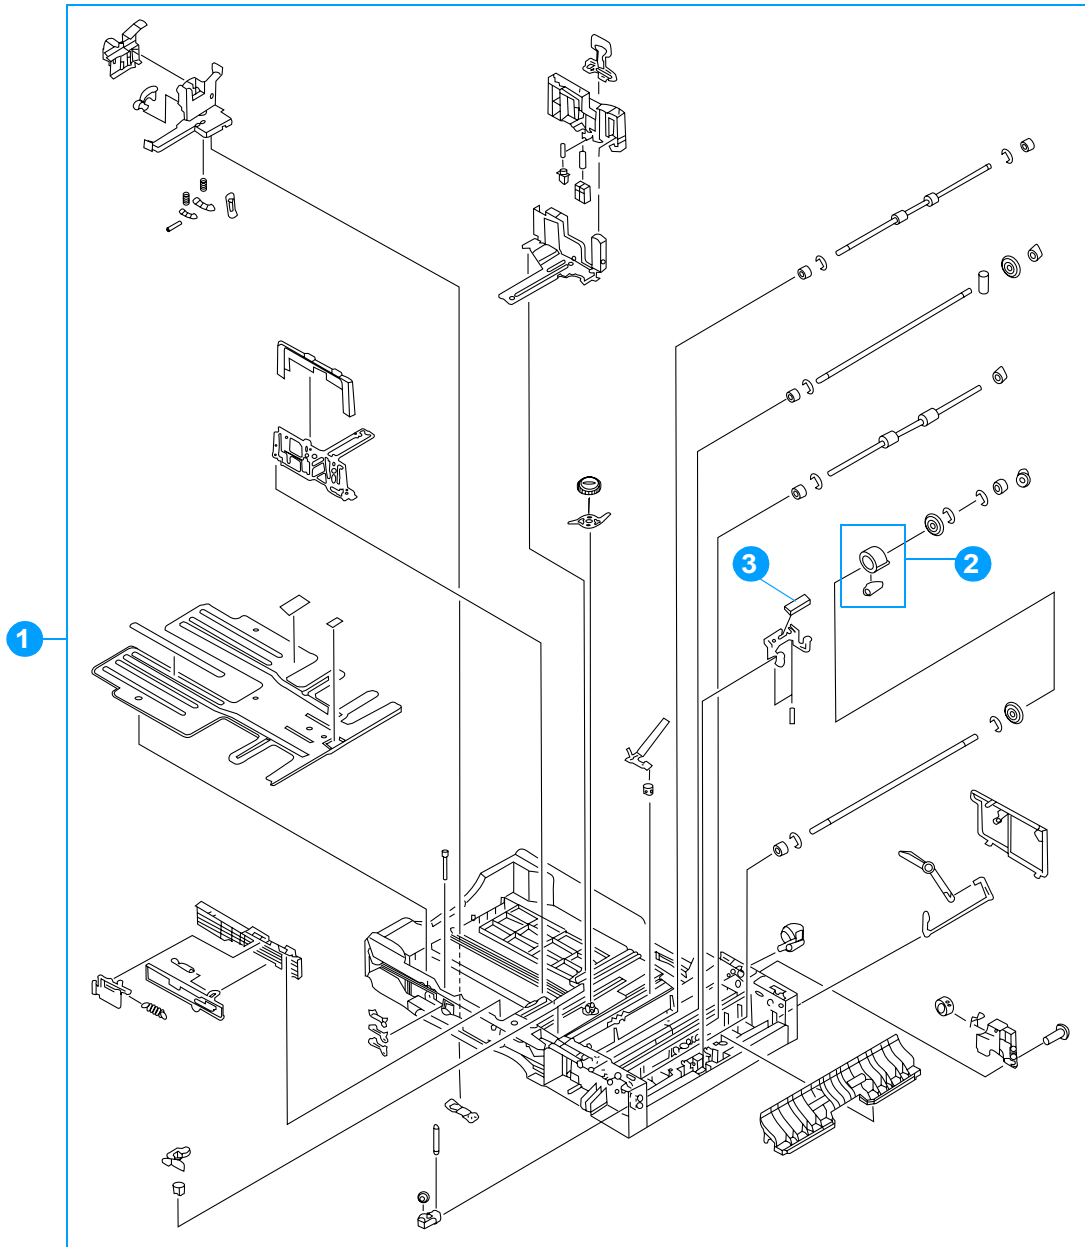
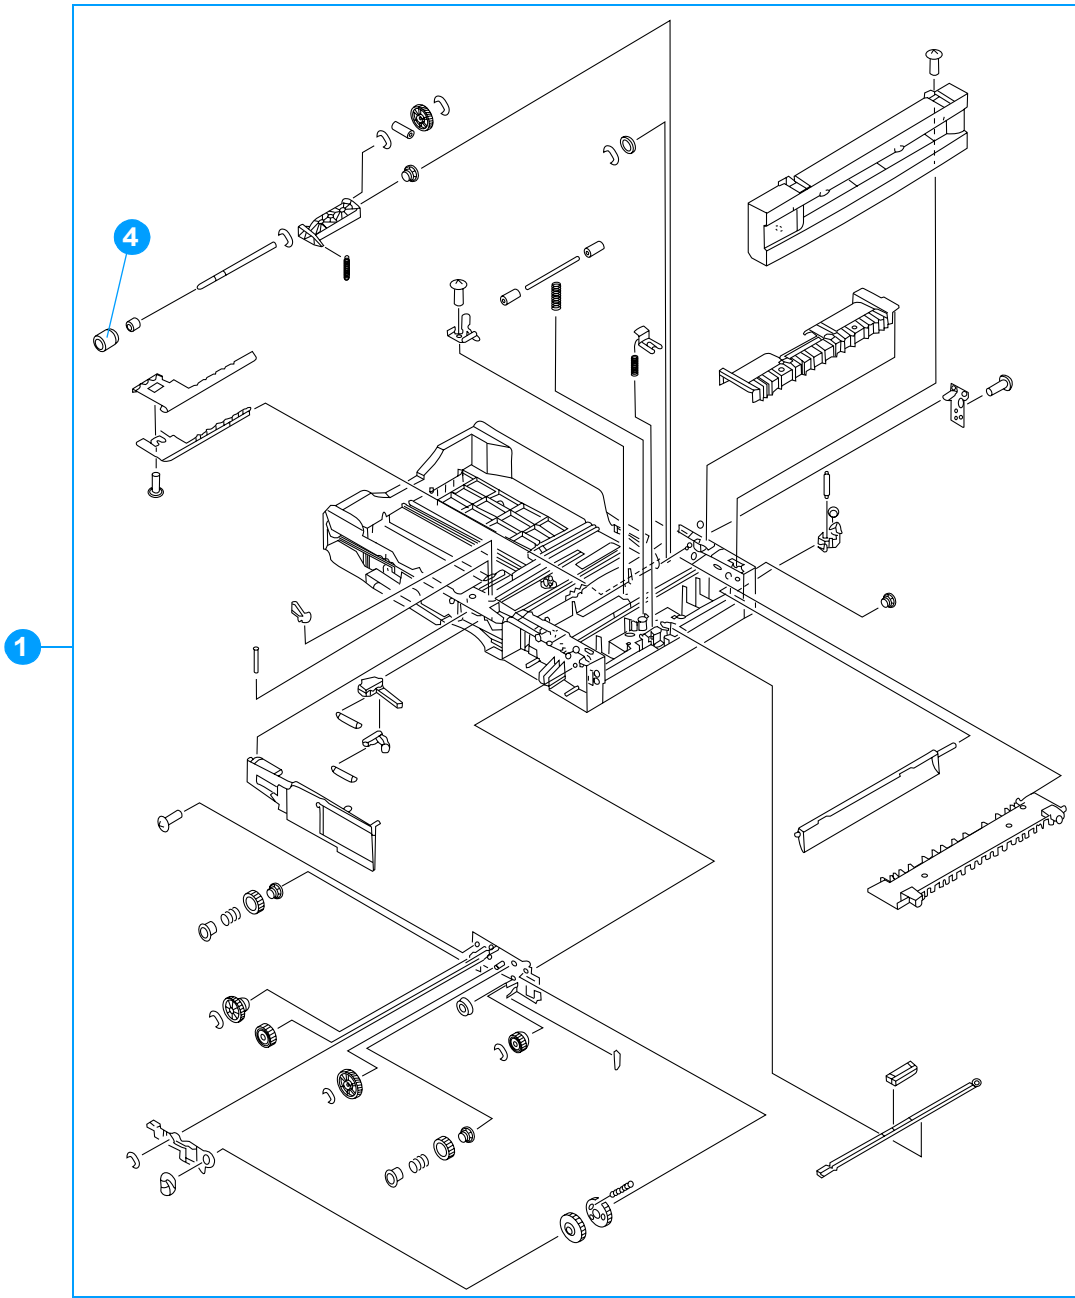

Figure 8-18 Cassette (1 of 2)
Figure 8-19 Cassette (2 of 2)
Table 8-19 lists parts shown in Figure 8-18 and Figure 8-19. If you order a replacement cassette (item 1), you will receive all parts shown in both figures.